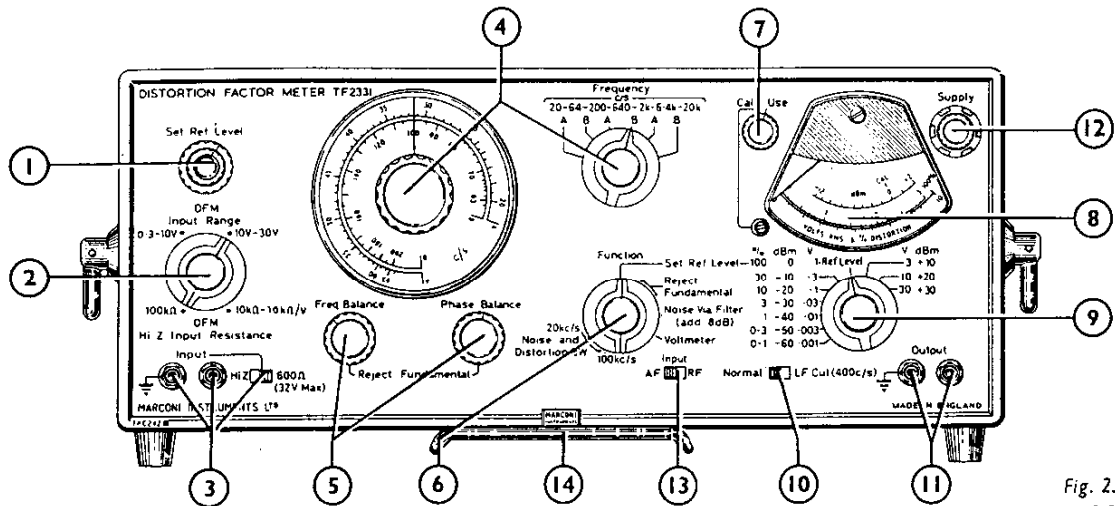

Fig. 2.1
- ① **SET REF LEVEL controls** : Adjust in conjunction with (8) and (9) to bring meter reading to 100% (or to 0 dB for decibel measurements).
- ② **DFM INPUT RANGE selector** : Set to suit level of total signal at INPUT terminals.
- ③ **INPUT terminals and switch** : For DFM (Distortion Factor Meter) measurements the input resistance at Hi Z is shown by the INPUT RANGE setting. For Voltmeter measurements Hi Z equals about 1 M Ω .
- ④ **FREQUENCY controls** : Set to reject fundamental frequency. Use A or B scale according to switch setting. Fig. 2.1 shows controls set to 1 kc/s.
- ⑤ **BALANCE controls** : Adjust in turn for maximum rejection of fundamental. PHASE BALANCE is a high discrimination 10-turn potentiometer.
- ⑥ **FUNCTION selector** : Switches in fundamental rejection filter in positions 2 and 3, weighting network in position 4.
- ⑦ **CAL-USE switch** : To standardize meter for Voltmeter measurements, switch to CAL and adjust preset to bring meter to CAL mark.
- ⑧ **METER** : For DFM measurements reads distortion and/or noise relative to total signal in percentage or decibels. For Voltmeter measurements reads input level in volts, or dBm in 600 Ω .
- ⑨ **METER RANGE selector** : The three right-hand settings are for Voltmeter measurements only.
- ⑩ **LF CUT switch** : Attenuates frequencies below 400 c/s to eliminate supply hum components.
- ⑪ **OUTPUT terminals** : Provide a signal from the output of the voltmeter amplifier. At meter full-scale the output is 150 mV at a nominal 1 k Ω source impedance.
- ⑫ **SUPPLY switch** : Controls a.c. mains or battery supply. Selection of supply is made by the MAINS-BATTERY switch at rear.
- ⑬ **AF - RF INPUT** : Switches in the r.f. detector enabling measurement of noise and distortion on the modulation envelope of r.f. signals. The RF INPUT socket is located at the rear of the instrument.
- ⑭ **SUPPORT** : Hinges down to raise front of instrument.